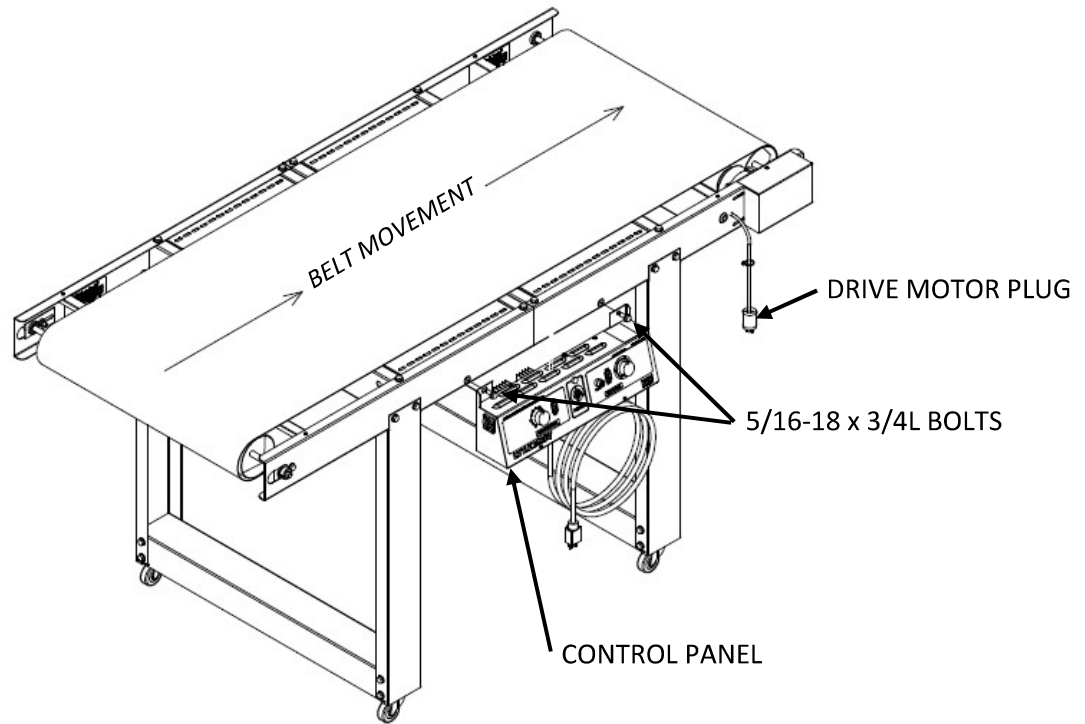

Figure 5
1. Use two **5/16-18 x 3/4L BOLTS** to fasten the **CONTROL PANEL** to the **CONVEYOR** (see **Figure 5**).